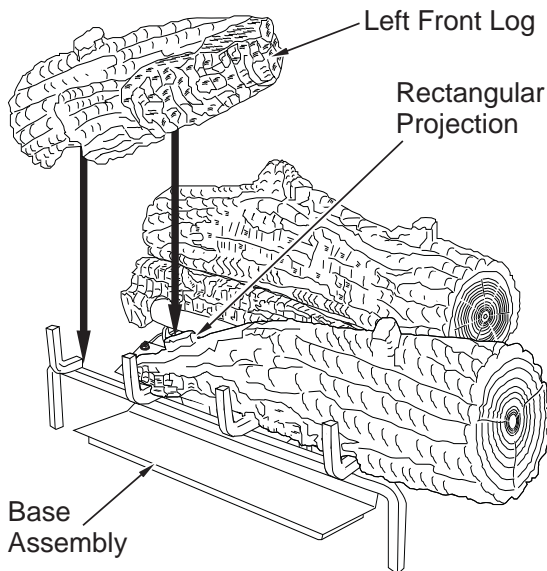

Figure 36 - Installing Left Front Log
4. Place the left front log onto the base and the right front log as shown in **Figure 36**. The left front log has a notch on the bottom that will line up with the projection on the right front log.